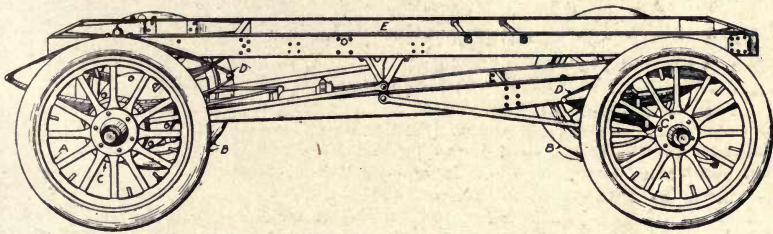
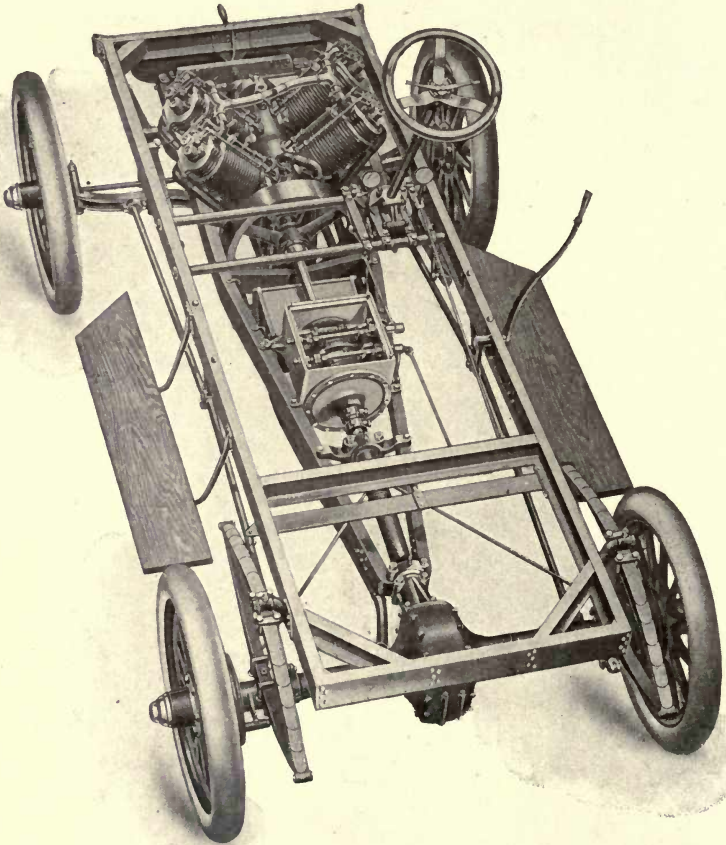

Fig. 1. Running Gear of a Motor-Car.
Fig. 2. Typical Chassis of a Motor-Car, Showing Running Gear and Power Plant. Nordyke & Marmon Company, Indianapolis, Ind.
The running gear (Fig. 1) consists of: *Wheels (A)*, for supporting and propelling the whole machine; *Tires (B)*, for cushioning the car from rough shocks and jars, and for providing a sufficient adhesion
location, such frame being capable of sustaining the loads to be carried. In addition to the above features shown in Fig. 1, the running gear (see Fig. 2) includes *steering devices* (controlled by hand-wheel, shown at upper right), for altering the direction of move-